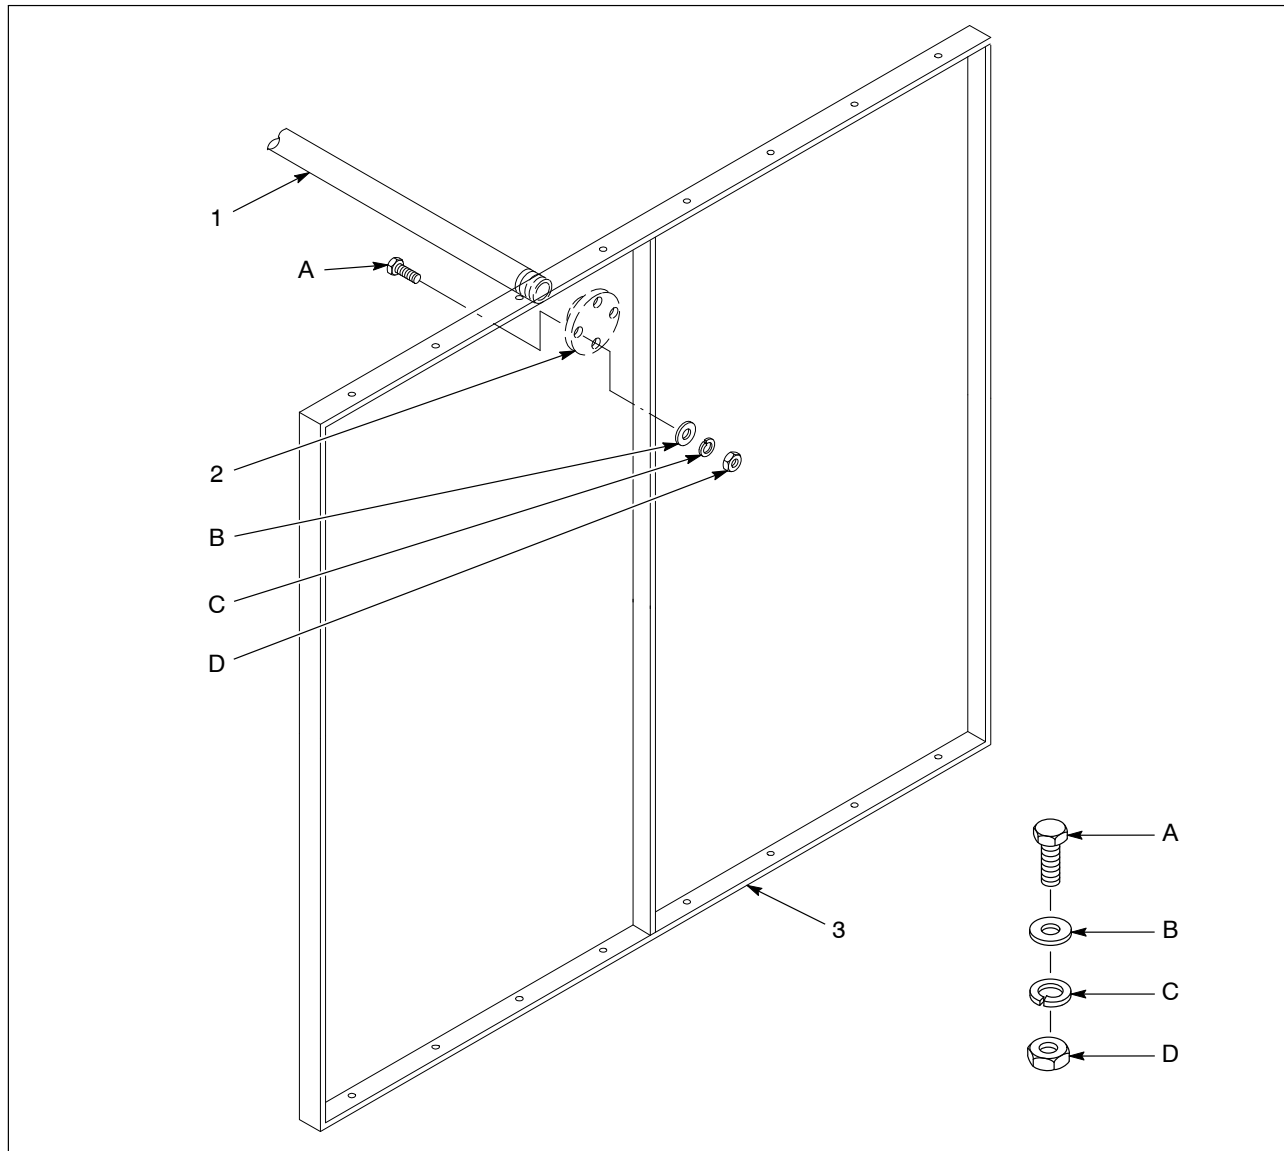

Figure 3-4 Part Hanger Bar Installation
1. See Figure 3-4. Thread the flanges (2) onto the part hanger bar (1).
2. Position the bar between the side panels (3). Hold the bar level and equidistant from the ends of the side panels. Drill four bolt holes in each side panel. Use the flanges as templates.